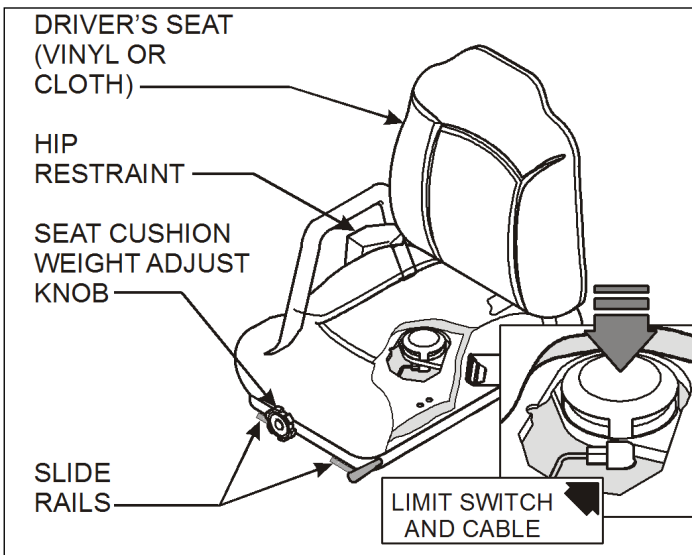

Figure 3-66: Seat Switch
6. Loosen the back two sets of hardware. **See Figure 3-66.**